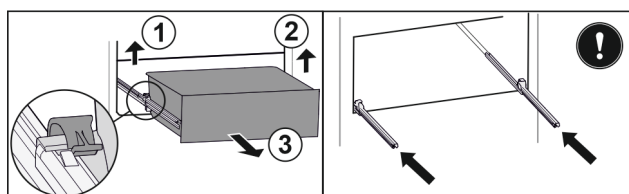

Fig. 177
- Lift left clamp and simultaneously pull drawer forwards on the left. Fig. 177 (1)
- Lift right clamp and simultaneously pull drawer forwards on the right. Fig. 177 (2)
- Remove drawer to the front. Fig. 177 (3)